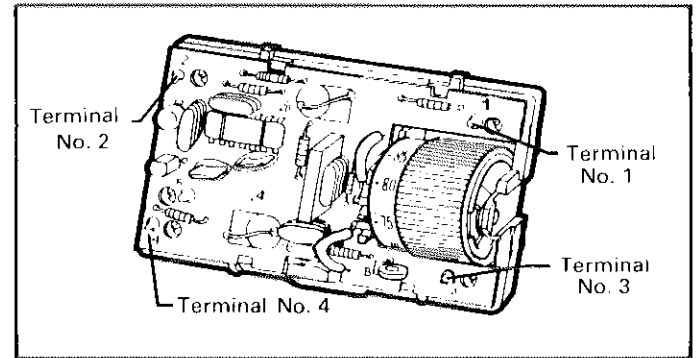

FIGURE 32
- 1 - Remove cover from room sensor. Connect voltmeter to terminals 3 (—) and 4 (|). See Figure 32.
- 5 - Table 3 lists the voltage ranges that reflect conditions at room sensor. Refer to Figure 32 for meter connections.